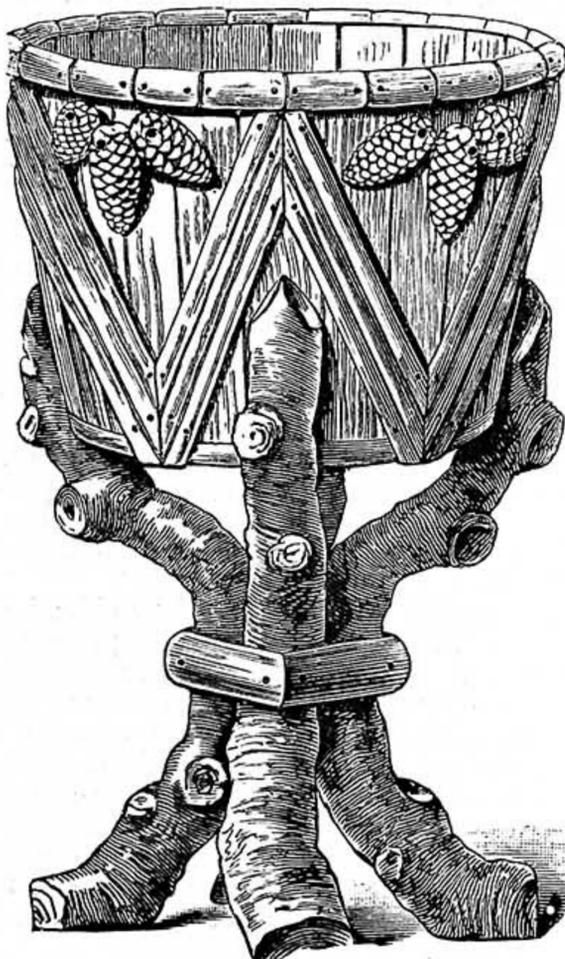

Fig. 1.—Large Plant Vase made out of Half a Paraffin Cask.
*A Paraffin Cask.*—Among the objects suited to our purpose—objects which we shall require to be practically good as new, but to be less costly than the materials of which they are made—the paraffin cask may be mentioned. An ordinary forty gallon cask, standing roughly some 3 ft. high, having a diameter of some 2 ft., and made of good stout oak, costs usually 2s. 6d. I have bought such casks for less money. Sawn through the middle, the paraffin barrel makes two admirable tubs for our work. One such half is shown in Fig. 1. This it is proposed to render suitable for some large bushy plant, so it will have to be mounted on legs. The legs shown are simply so many pieces cut from rough branches. From a heap of stuff one can generally choose pieces sufficiently adapted to the purpose, though their exact contours will, of course, vary. Oak branches,